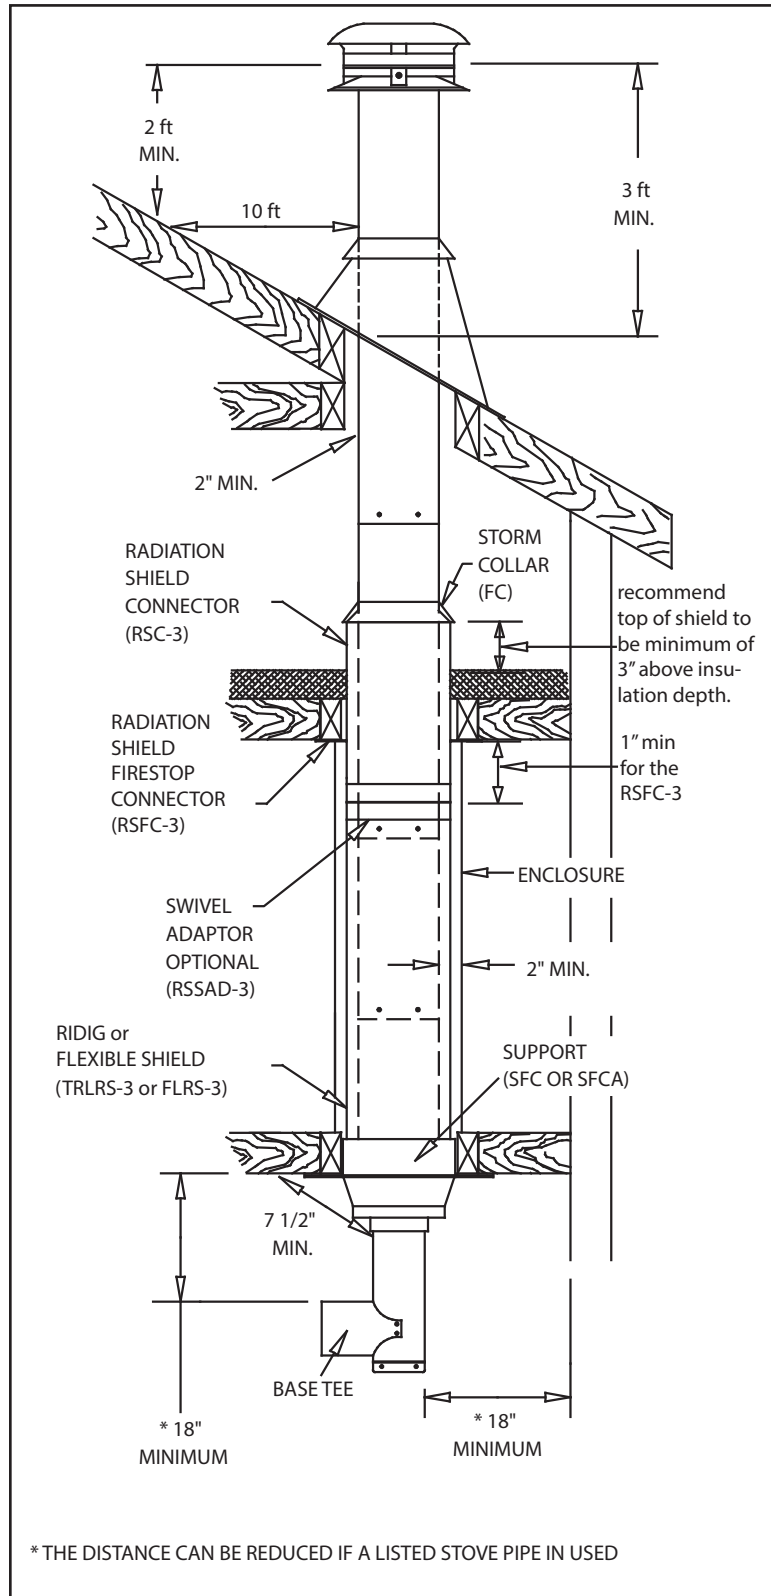

Figure 26
- a. On wood or coal appliance applications and in areas where the chimney is completely enclosed in an interior house installation, it is required to install Premium Radiation Shield (Telescopic **TRLRS-3** or Flexible **FLRS-3**) around the chimney and a Radiation Shield Connector (**RSC-3**) at the ceiling level. (See Figure 26).